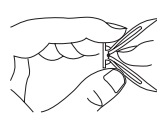

Figure 9 - Folding Anchor
- Fold wall anchor as shown in Figure 9.